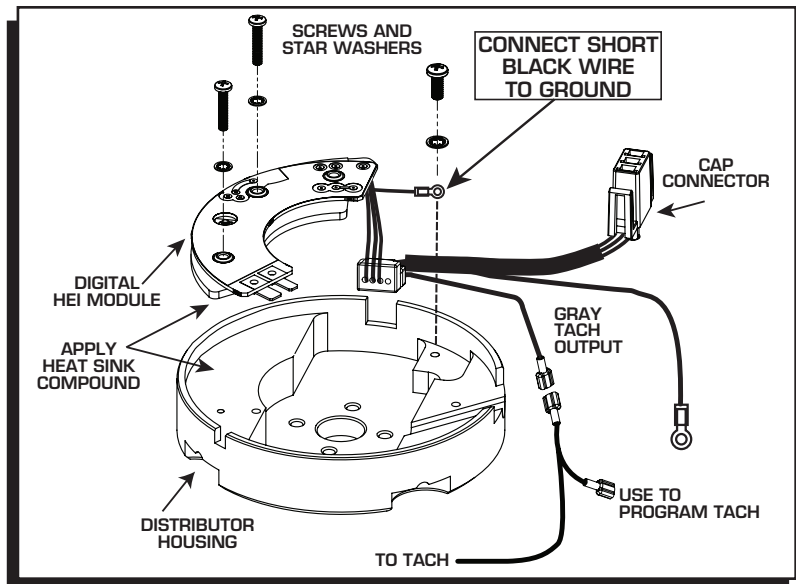

Figure 1 Installing the Module.
2. Apply a liberal coat of the Heat Sink Compound to the aluminum base of the Module and to the rubber insulator. Route the wiring harness out of the housing and position the short black wire to ground with one of the mounting screws (Figure 1).